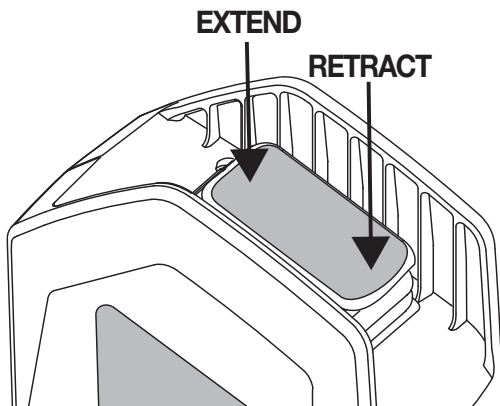

Figure 8
- Double click **Extend** on toggle switch to activate remote operation. (Fig. 8) Test the connection by double clicking and holding the toggle switch. At the end of a cutting cycle the blade will automatically open.